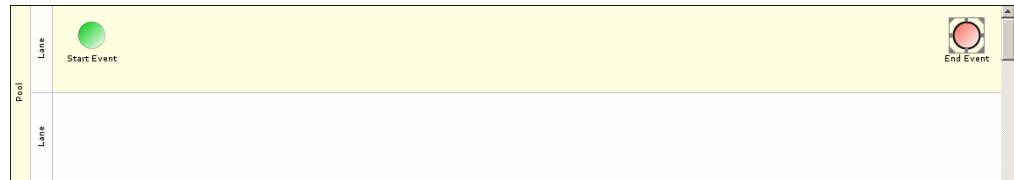

Figure 7.4: New Swim Lane Added
1. In the Process Modeler applet, click **Lane** () button in the Palette and drag it to the graph canvas. A new lane gets added to the Pool (see Figure 7.4).